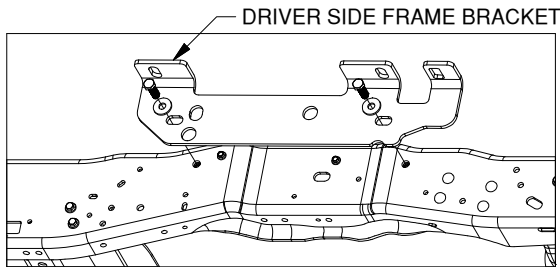
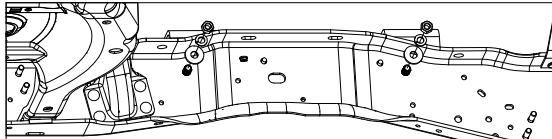

Figure B1: View looking into driver side wheel well.
Figure B2: View under bed looking at the inside driver side frame.
1. **Install the driver side frame bracket.** Using two 1/2" X 1 1/2" hex cap screws and two 1/2" flat washers. Pass the cap screws with the flat washers through the sideplate and the frame as shown in figure B1. Secure the sideplate on the inside of the frame with two 1/2" flat washers, 1/2" lock washers, and 1/2" finish nuts, as shown in figure B2. Do not tighten the mounting hardware at this time.